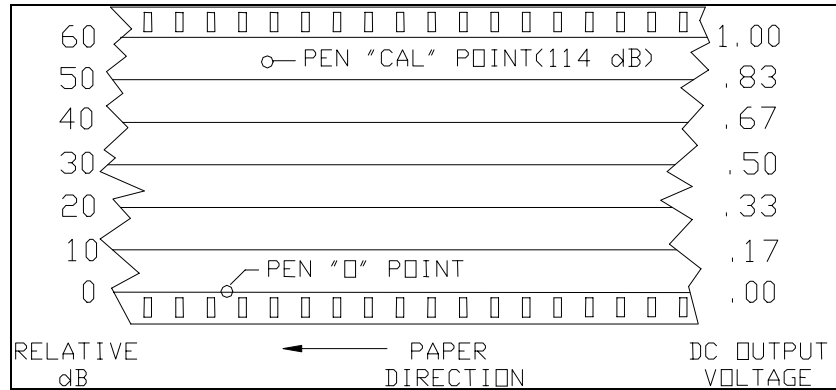

Figure 8. Chart Recording of SPL
Refer to Figure 8, Chart Recording of SPL. Connect the Model 2800M to the chart recorder input with proper polarity such that the pen is on the proper side of the chart paper with respect to time and that the pen moves in the proper direction with increasing dB level. Use a QC-10M acoustic calibrator to calibrate the chart recorder as follows:
3. Turn the Calibrator ON to produce 114 dB at 1 kHz. Set the 2800M dB RANGE for the highest bar graph level without causing an overload. When set properly, the recorder pen should rise to the correct RELATIVE dB. (114 dB should cause the recorder pen to rise to the point indicated in Figure 8.) A small adjustment may be needed. Use the zero adjust on the recorder to do this.